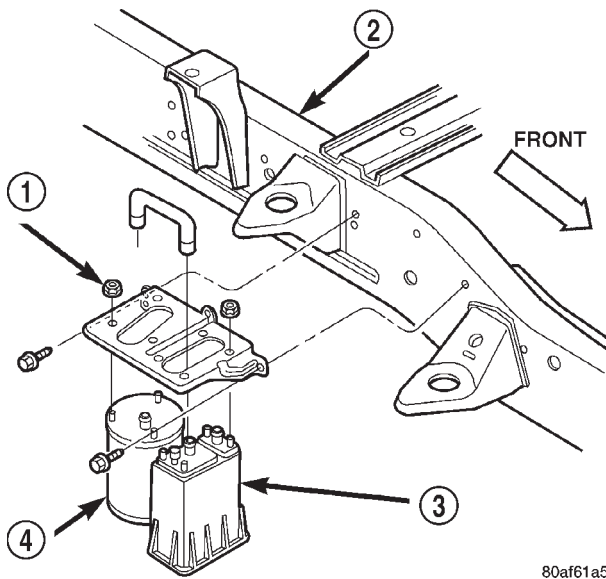

Fig. 12 EVAP Canister Location
Two EVAP canisters are used. Both canisters are mounted to a bracket located below rear of vehicle cab on outside of right frame rail (Fig. 12).
(1) Remove fuel tubes/lines at each EVAP canister. Note location of tubes/lines before removal for easier installation.
(2) Remove mounting nuts at each canister (Fig. 12).
(3) Remove each canister from mounting bracket.
(1) Place each canister to mounting bracket (Fig. 12).
(2) Install nuts and tighten to 9 N·m (80 in. lbs.) torque.
(3) Install fuel tubes/lines to each canister.